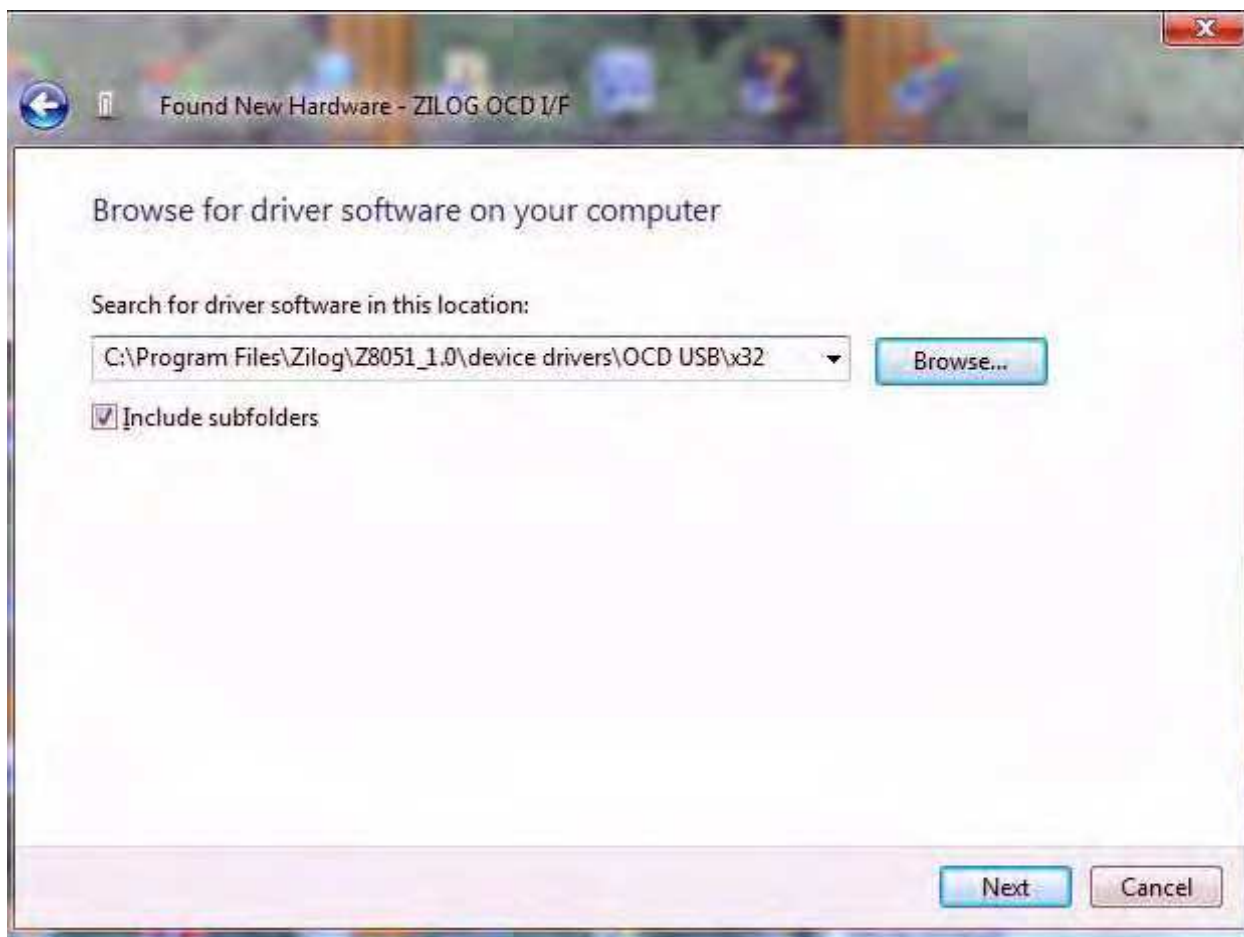

Figure 5. Browse For Driver Dialog, Windows Vista
3. Select **Browse my computer for driver software (advanced)** to display the dialog shown in Figure 5, which prompts you to key in or browse for the location of the `.inf` file. Depending on the type of computer you use (32-bit or 64-bit), use the **Browse** button to navigate to one of the following paths, then click the **Next** button.